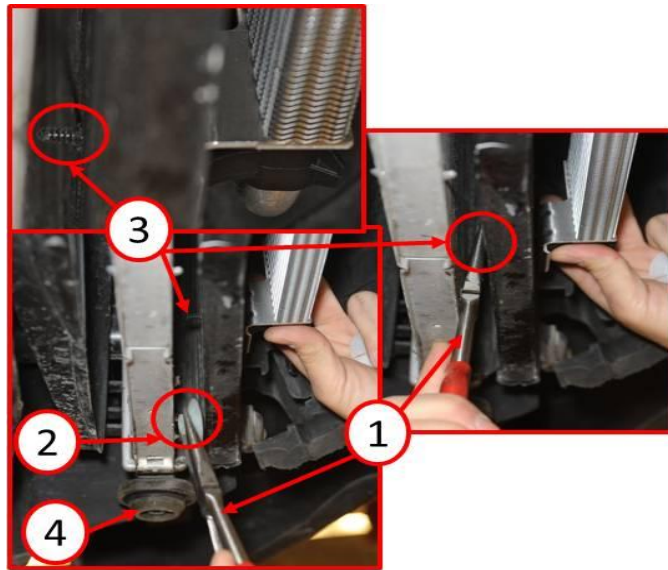

**Fig. 4 Steering Cooler Installation**
13. Insert the holding clips (2) into the steering cooler (4) (Fig. 4).
14. From the front of the vehicle, with the outlet lines of the cooler (1) facing toward the passenger side, insert the cooler holding clips (2) into the condenser (3) at the marks indicated on the condenser (Fig. 4).